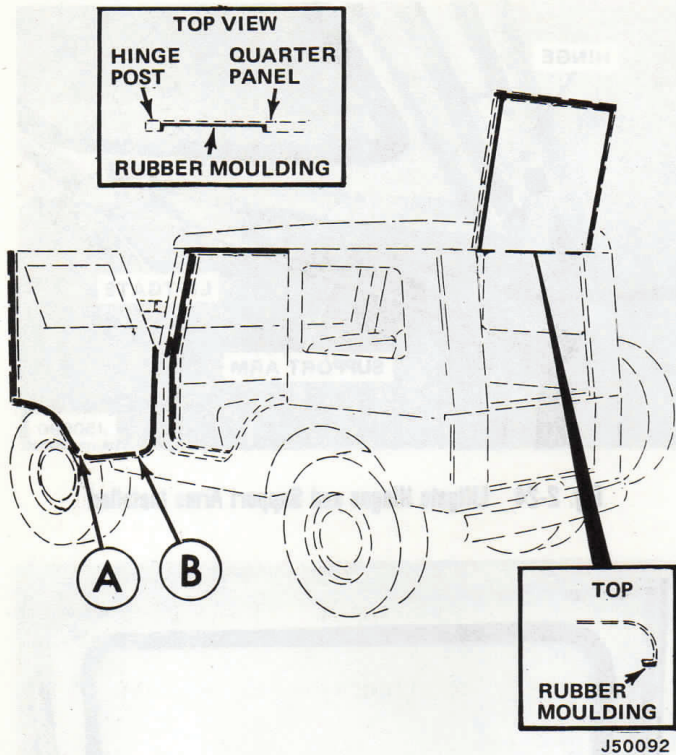

Fig. 2-26 Rubber Moulding Installed
outside edge, and extending from top of door to bottom corner (fig. 2-26).
(2) Butt second strip against lower end of vertical strip, parallel to and 1/8 inch from outside edge, and extend down along bottom of door and up hinge side. Trim surplus material and cut two vertical 1/4-inch wide drain channels at locations A and B (fig. 2-26).
(3) Apply horizontal strip along top of door opening, beginning on back side of adapter bracket, and extending around corner onto front edge of quarter panel.
(4) Apply vertical strip along front edge of door opening, butt top of strip against bottom of horizontal strip, and extend it down to bottom of adapter bracket.
(5) Apply vertical strip from bottom of adapter bracket, extending it down to beginning of radius at bottom corner of door opening.
(6) Apply 8-inch strip at right angle to vertical strip installed above, with its top end at bottom of adapter bracket.
(7) Check door operation and adjust strikers, if necessary.